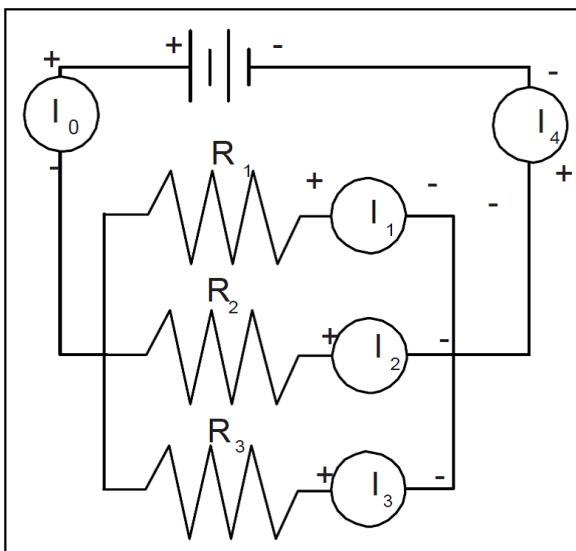

Figure 15: A diagram of the parallel circuit
4. Connect the parallel circuit below (see figure 15), using all three resistors. Review the instructions for connecting the multimeter as an ammeter in step 2. Connect it first between the positive terminal of the battery and the parallel circuit junction to measure  $I_0$ . Then interrupt the various branches of the parallel circuit and measure the individual branch currents. Record your measurements in figure 16.